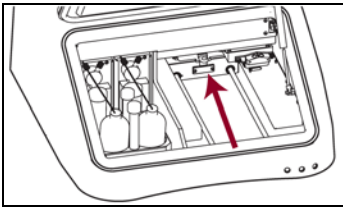

Figure 13
3. Push the sample tray to the back of the luminometer, exposing the two steel guide rails upon which the sample tray glides. (See Figure 13.) Use a KimWipe® and 70% ethanol to clean the guide rails.